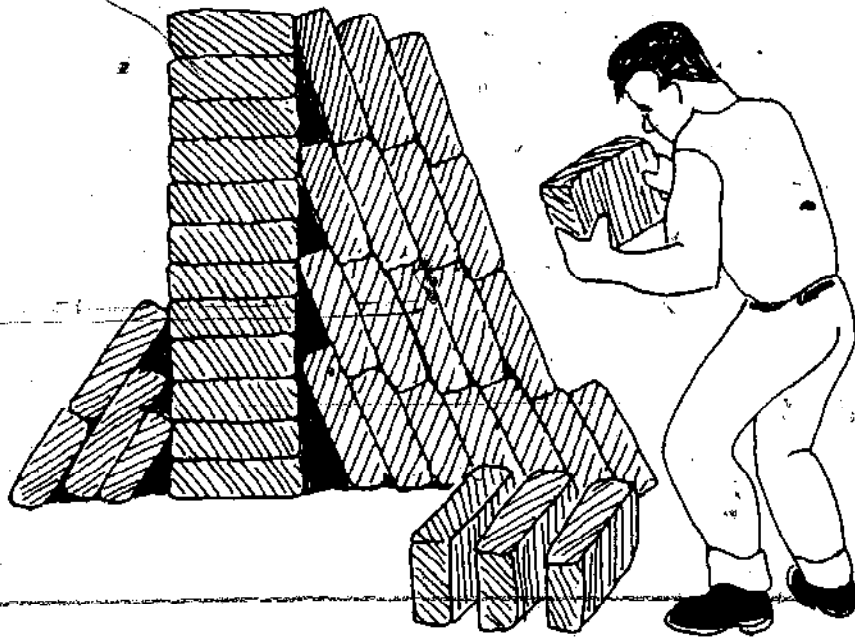

Figure 46. Adobe block is stacked after a month of curing.
4. At the end of the curing period, the blocks are stacked on edge as shown in Figure 46 so they will take up less room.